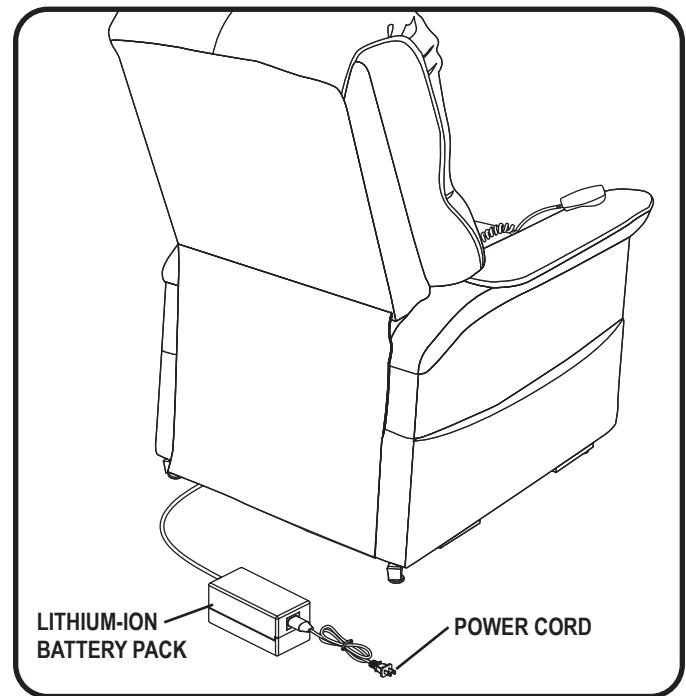

Figure 4.4 Chair Battery Back-up Location
2. Position the external transformer so that the lithium-ion battery is facing upward (**fig. 4.4**).